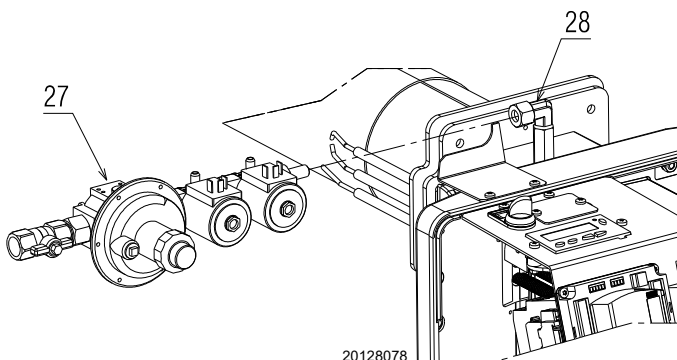

Fig. 16
- Insert the pilot train 27)(Fig. 16) on connector 28) and tighten the nut fully home.